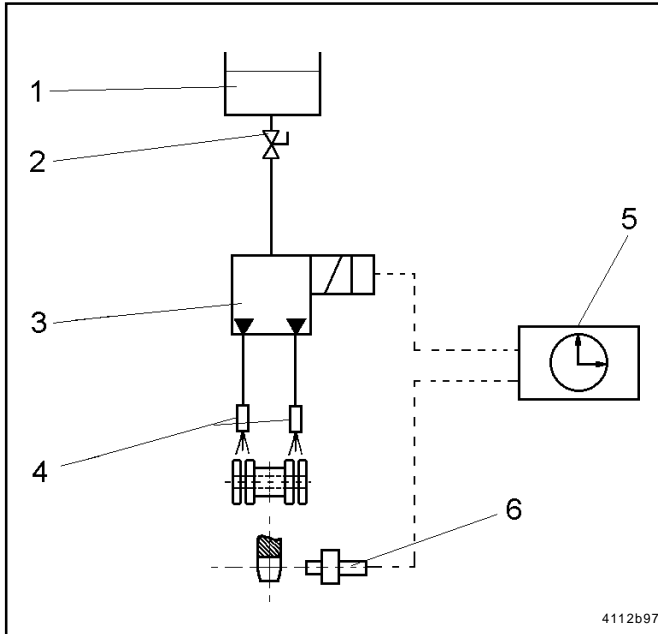
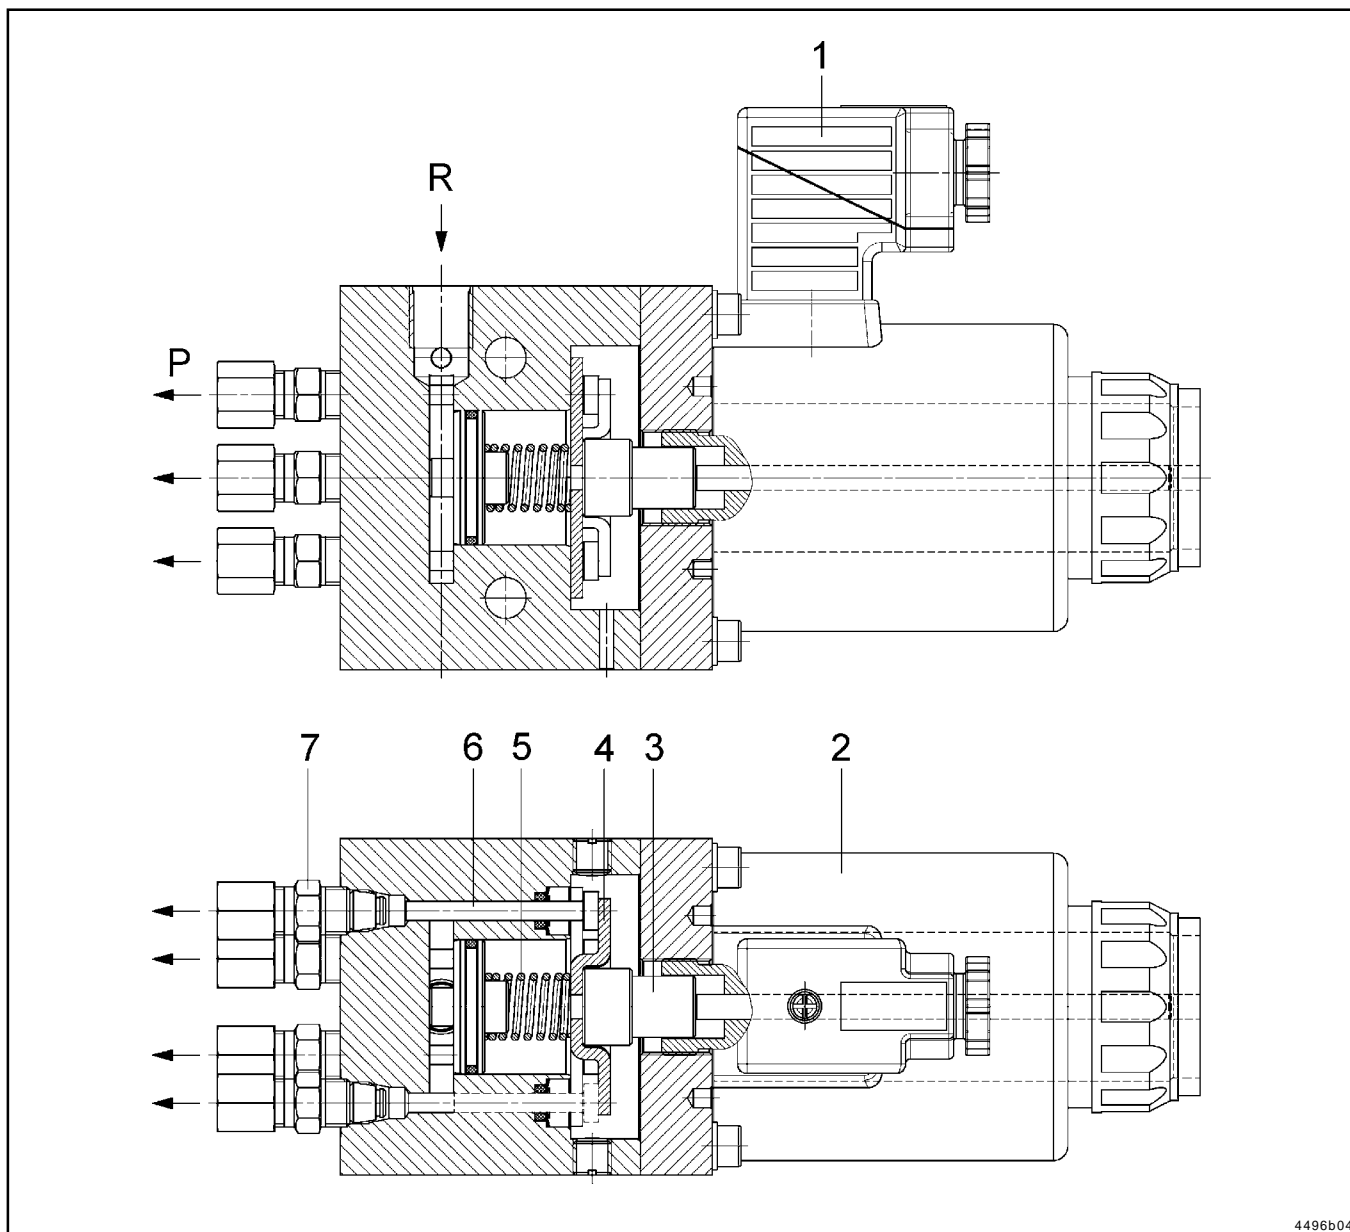

Fig. 1 - Magnetic pump for chain lubrication via spray nozzle
Fig. 2 Sectional drawing of the PMA-2
- the pump is driven by an electromagnet (2, fig. 2).
- The movement of the drive pinion (teeth or chain) is sensed by the proximity switch (7, fig. 1) which, in this way, controls the electromagnet for splash lubrication.
- The armature of the electric solenoid (2, Fig. 2) receives an electrical pulse (energizing) from the proximity switch (6, Fig. 1). It contacts the piston support (4, Fig. 2) via a tappet (3). The piston support causes the pistons (6) to move.
- The pistons eject a dosed quantity of oil to the pressure connection (P). The return stroke of the pump pistons and that of the armature are spring activated. During the return stroke the pistons suck fresh oil from the storage chamber. The pump is ready for the next lubrication pulse.